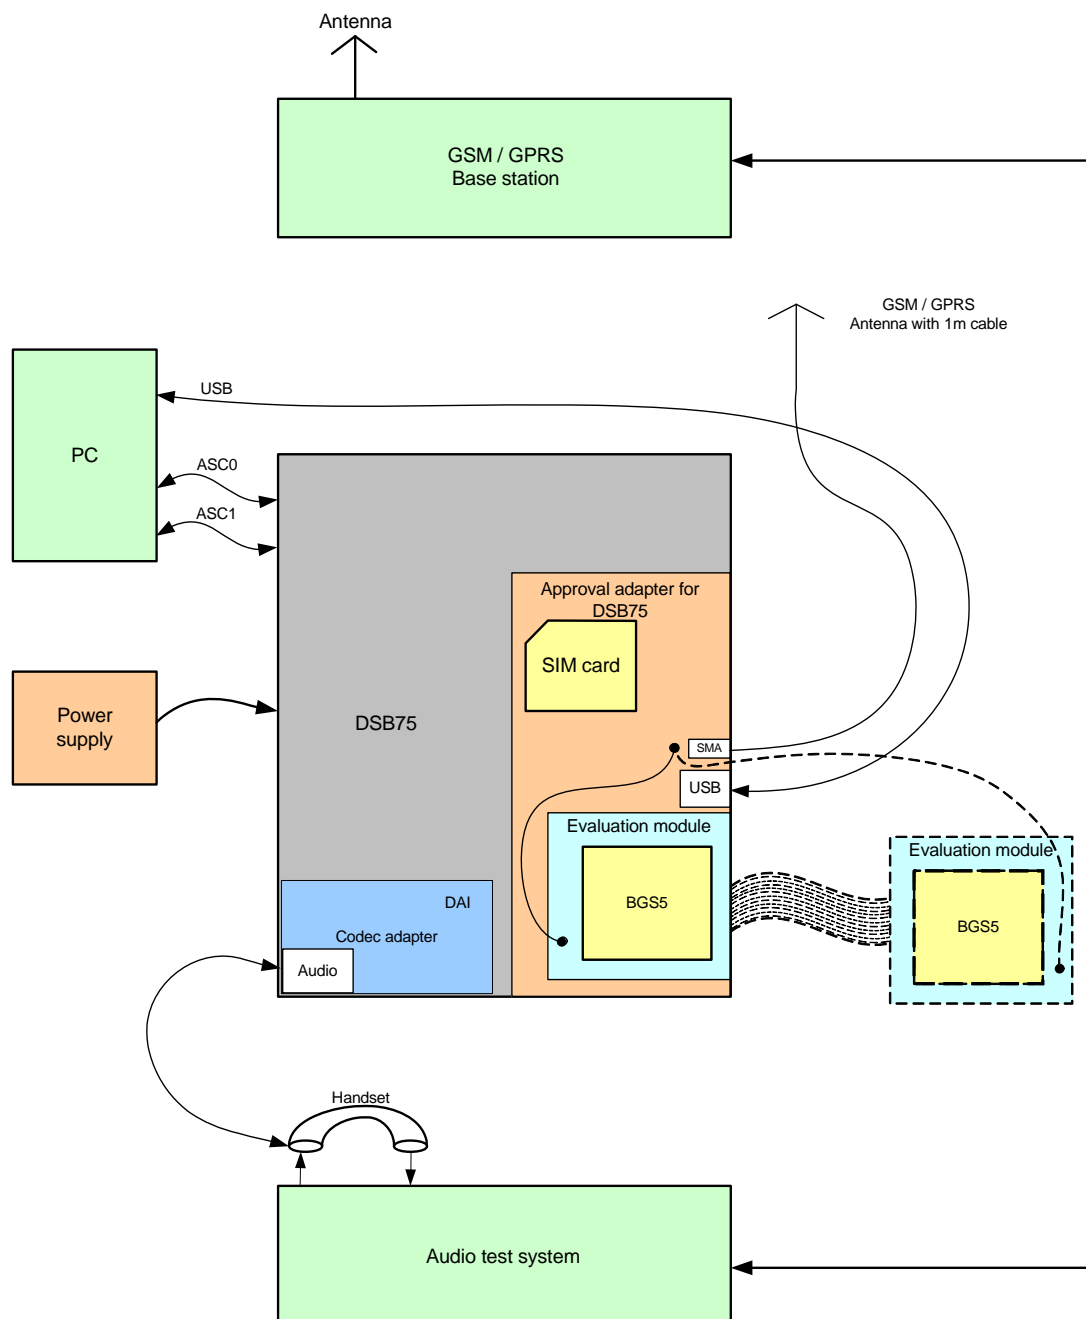

Figure 56: Reference equipment for Type Approval
1. For RF performance tests a mini-SMT/U.FL to SMA adapter with attached 6dB coaxial attenuator is chosen to connect the evaluation module directly to the GSM test equipment instead of employing the SMA antenna connectors on the BGS5-DSB75 adapter as shown in Figure 56. The following products are recommended: